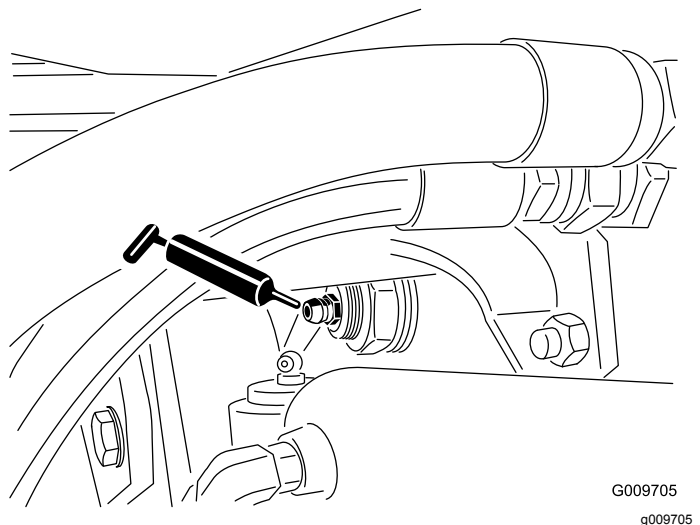

Figure 23
- Rear axle pivot bushings (2) (Figure 23)